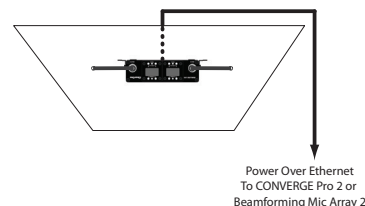

Fig. 11
- Ceiling Mount RX with PoE to CONVERGE® Pro 2 or Beamforming Mic Array 2 (Fig. 11).